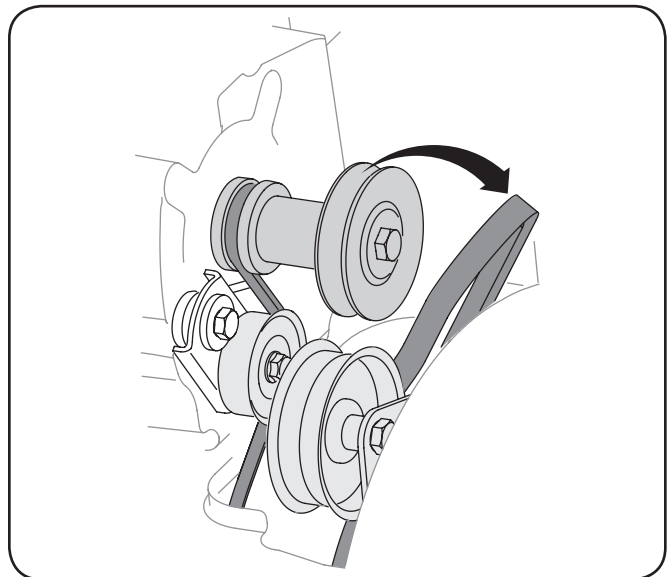

Figure 7-3
5. Roll the auger belt off the engine pulley. See Figure 7-3.